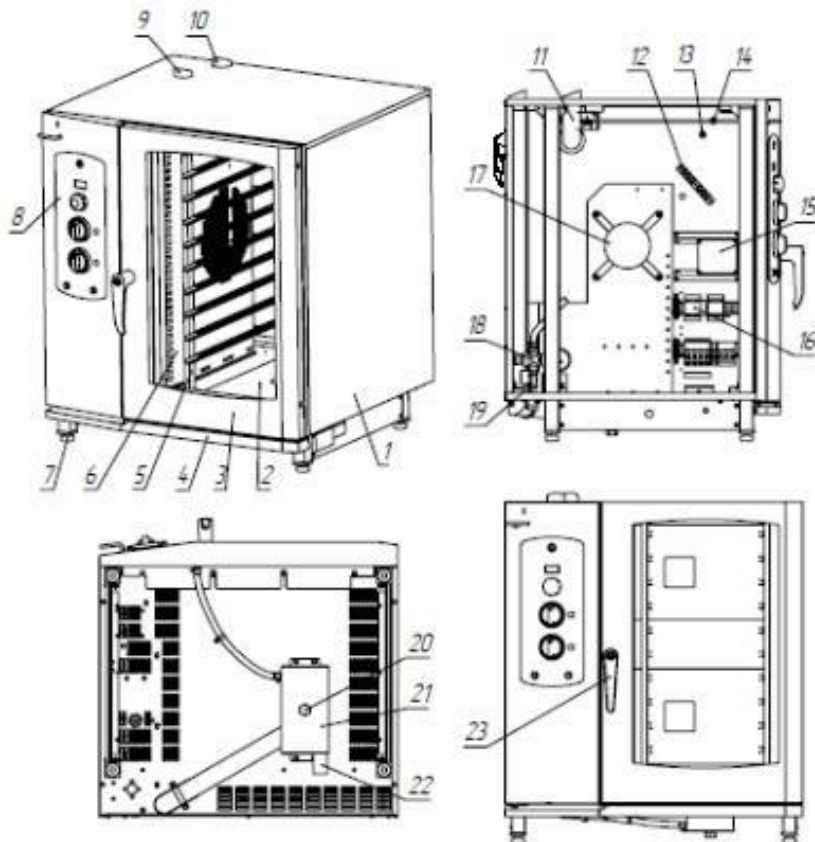

Fig. 1. Convection steamer “Rubicon” APK10-1/1-I.
The article comprises casing (1) (Fig. 1), working chamber (2), and closing door (3). A tray (4) for condensate collecting is situated under the door. On the front panel of the casing there is a control panel (8). Inside working chamber shelf holders (5), which are easily dismantlable for cleaning purposes, are situated.
5.2. Ensure the drainage plug (20) in the bottom part of the collector (Fig. 1) is installed in place and tightened properly.